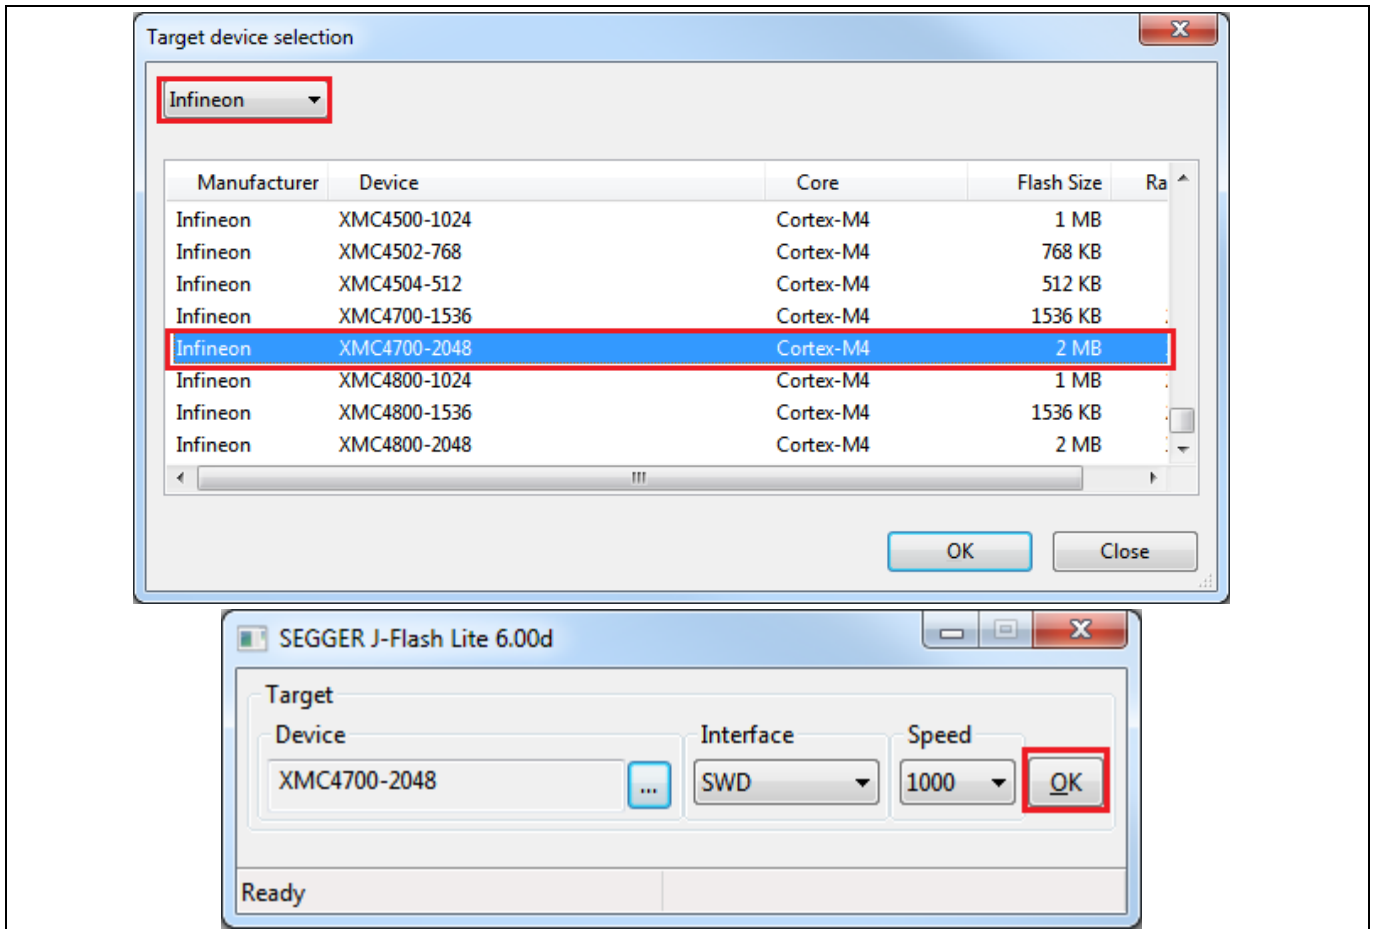

Figure 9 JFlashLite Target device selection
- 4. After target device selection, click OK on window shown in Figure 9.